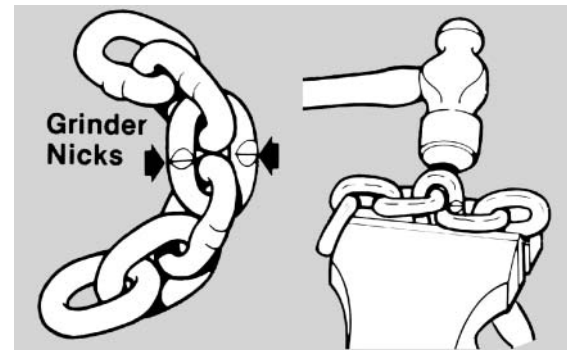

Figure 17. Cutting Chain by nicking
- Chain may also be cut using a blot cutter (Figure 17) similar to the H.K. Porter No. 0590MTC with special cutter jaws for cutting hardened chain (1 inch., 25.4mm) long cutting edge).